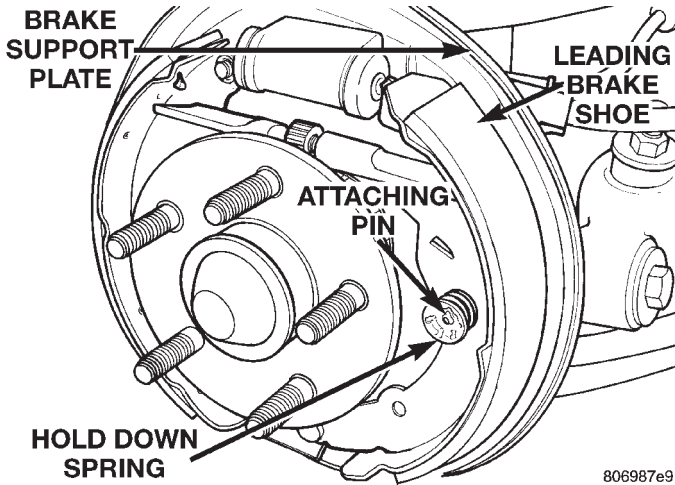

**Fig. 63 Hold Down Spring And Pin**
(7) Remove the hold down spring and attaching pin (Fig. 63) from the leading brake shoe.
(7) Install the leading brake shoe on the brake support plate. Then install the attaching pin and hold down spring for the leading brake shoe (Fig. 63).